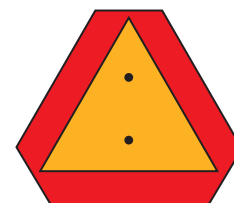

Figure 3-16: SMV Sign
- Transport during daylight hours whenever possible. Always use flashing warning lights, except where such use is prohibited by law. Make sure lights, reflectors and SMV emblem are clearly visible and operating. Remove any obstructions such as dirt, mud, stalks or residue that restricts view before transporting. **See Figure 3-16.**